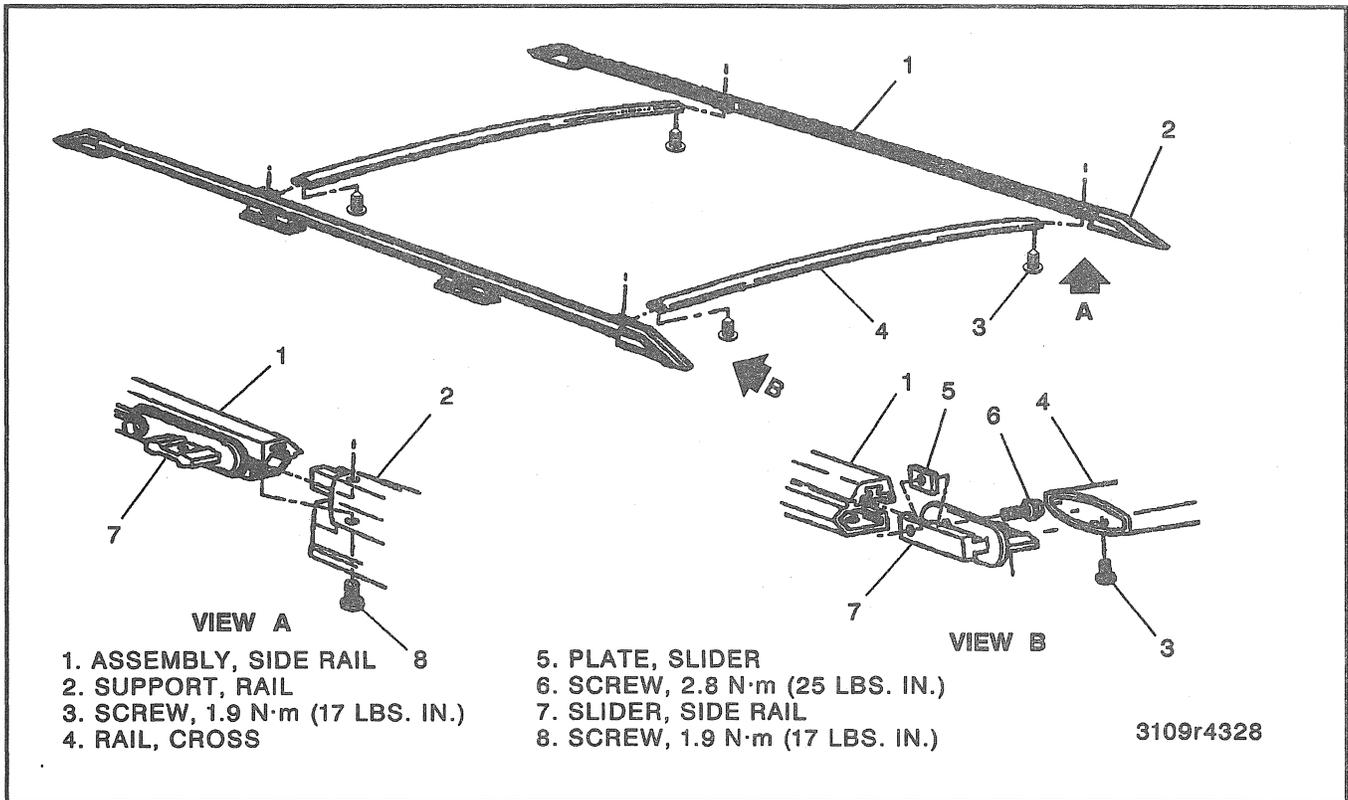

Figure 1—Luggage Carrier Components (Suburban Shown, 2 and 4 - Door Utility Similar)
5. Center rail supports (Figure 1).
**Disassemble (Figure 1)**
Install or Connect (Figures 1 through 3)